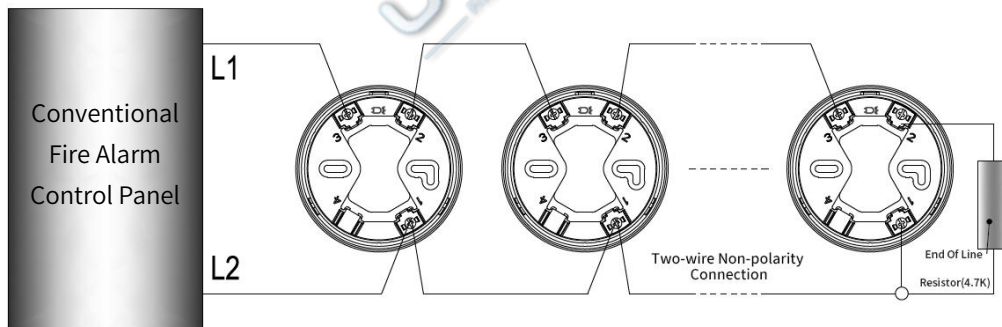

Fig.3
Note: Pins 2 and 3 are shorted through the inside of the detector and cooperate with the controller to detect whether the detector is online (see Fig.3).
a. The detector access to the Conventional Fire Alarm Control Panel wiring diagram, as shown in Fig.3: